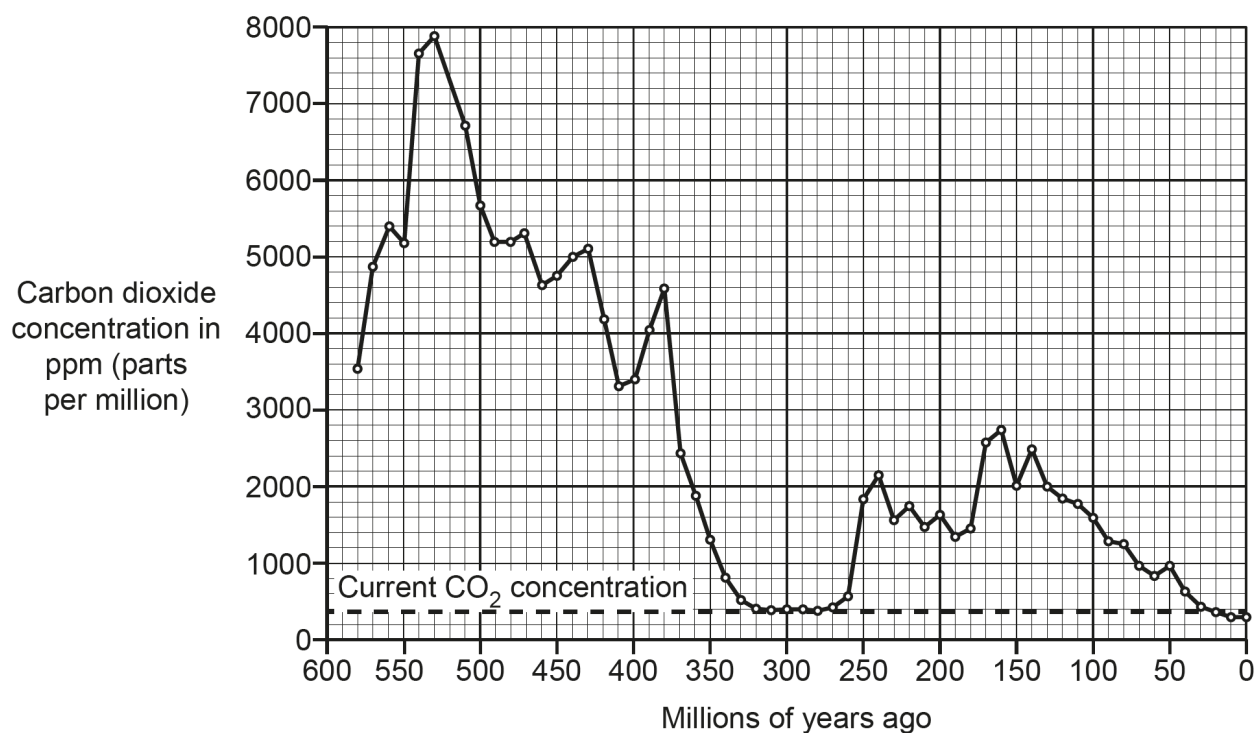

Fig. 7.1
- 7 **Fig. 7.1** shows the change in carbon dioxide concentration in the Earth's atmosphere over the last 575 million years.
- (c) **Fig. 7.1** shows the most recent value for the concentration of carbon dioxide to be 380 parts per million (ppm).